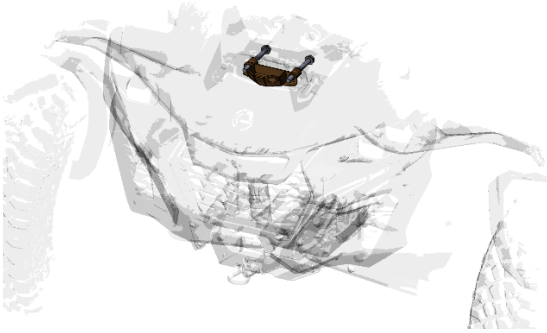

Figure 5
6. Temporarily install the **Upper Tube Mount Subassembly** and reinstall the A-Arm nuts. Refer to **Part B: Installation, Step 5** for Installation. **Refer to Figure 5.**